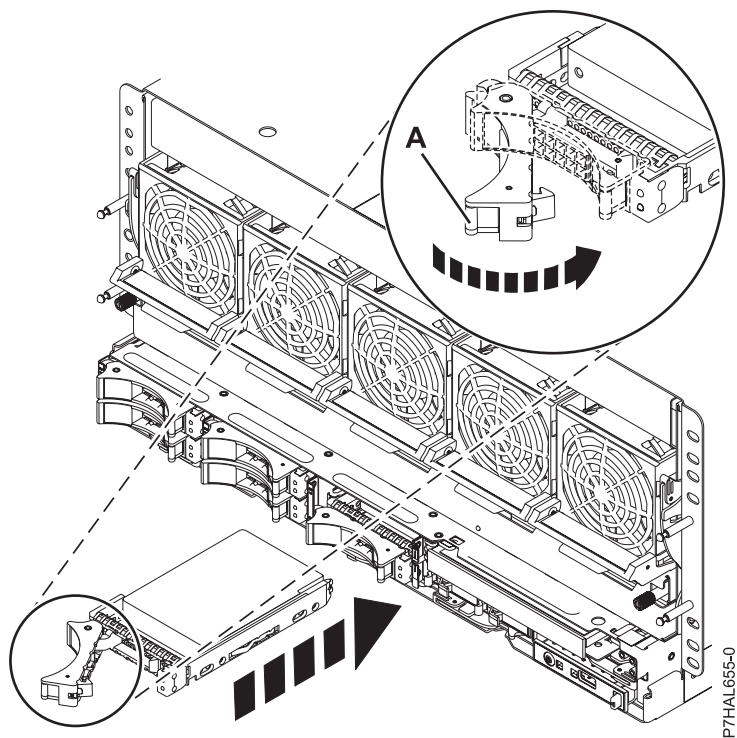

Figure 10. Installing the disk drive in the system
5. Slide the drive all the way into the system or expansion unit, and push the drive handle (**A**) in until it locks. See Figure 10 on page 20 showing installing a drive in the system.